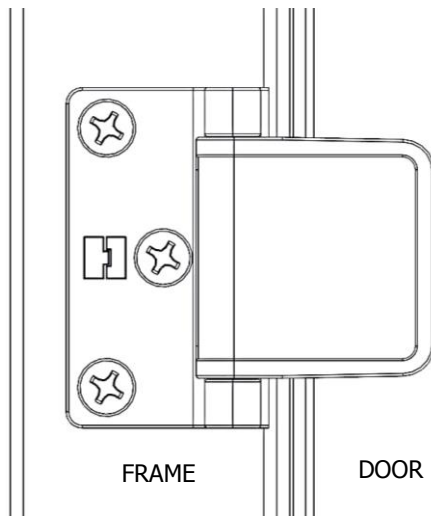

FIGURE 1 (FRONT VIEW)
3. Once the latch is in the desired position on the frame face, mark (3) holes for drilling (See Figure 1).
4. Center punch and drill (3) 5/32" pilot holes.
5. Install (3) sheet metal screws to secure the device.